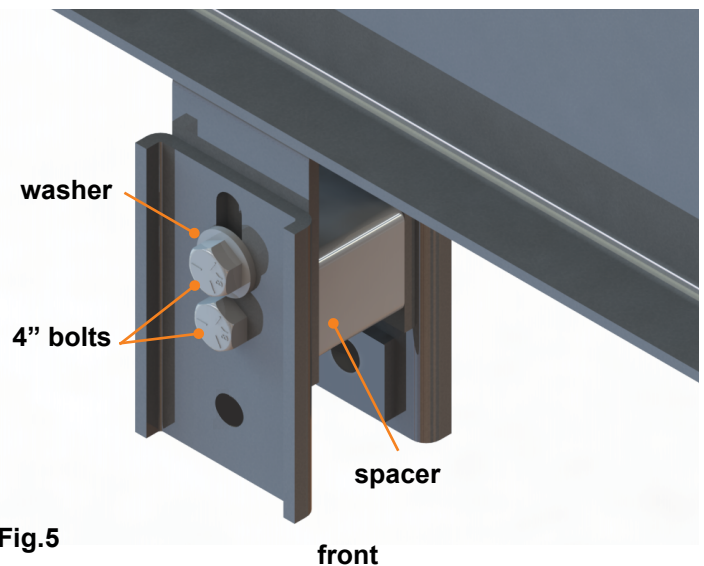
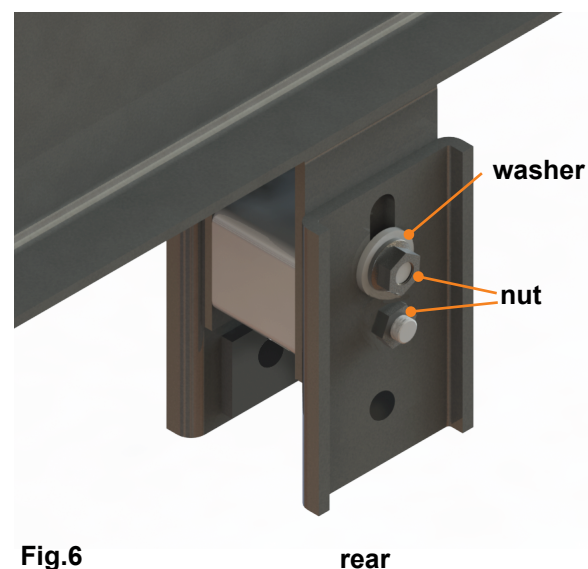

Fig.5
Fig.6
3. Insert a $\frac{9}{16}$ " x 4" bolt through the plates, the spacer and the hanger (**Fig.5**). Install a nut on the back side.
4. Insert a $\frac{9}{16}$ " x 4" bolt and a washer through the upper slot, the hanger and the spacer. Install a washer and a nut on the back side of the hanger and plate assembly (**Fig.5 and Fig.6**).